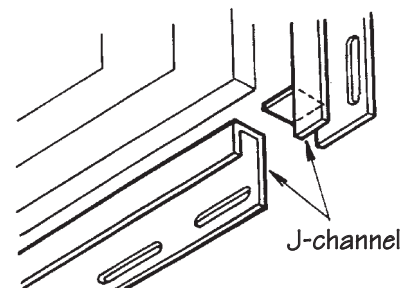

Figure 53.
- Cut side J-channels the length of the frame plus the width of the top and bottom J-channel. Cut and bend tabs (Fig. 53) into the bottom channel. Install the side channels.